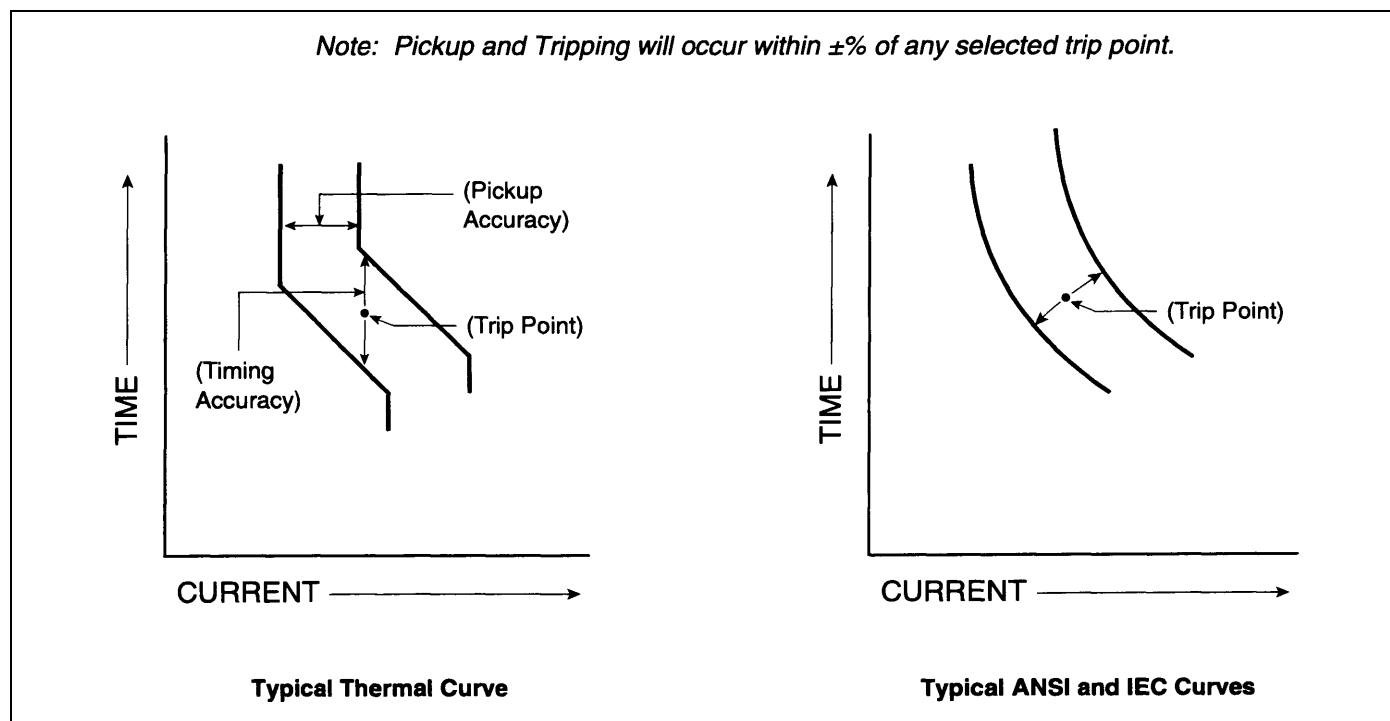

Fig. 3-3 Sample Electronic Trip Curves
a) Adjustability: The adjustability of the relay permits movement of its characteristic curve or parts of the curve. This movement can be done in both a horizontal and vertical direction on the time current grid. The actual shape of the curve can be changed along with the curve movement. This adjustability permits distinct curves to be established that will better match the electrical protection to the application need (Figures 3-3 through 3-8) Notice that there is no horizontal movement of the ANSI and IEC curve shapes. Only the point at which the relay starts to time out moves along the curve shape.
tings. Figure 3-3 graphically illustrates how the Inverse Time Overcurrent Pickup portion of the overall curve can be moved horizontally on the time current grid by means of the pick-up settings. The Inverse Time Overcurrent Pickup is represented by the dotted lines, while the rest of the curve is represented by a solid line.